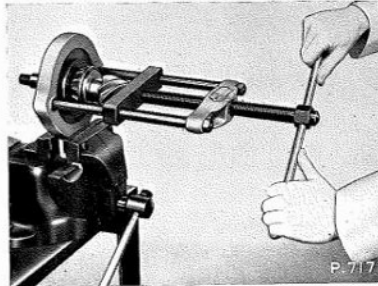

Fig. G.11. Fitting the bevel pinion inner bearing cone, using the Churchill Tool R.G.4221B and the adaptor set R.G.4221B-22
2. Place the bevel pinion in an upright position on a wood or lead block, and with Churchill Hollow Drift R.G.77, Code 2 tap the cone of the inner bearing on to the pinion. Ensure the bearing abuts against the gear teeth. Churchill Tool R.G.4221B and the Adaptor Set R.G.4221B-22 may also be used for this operation as shown at Fig. G.11.